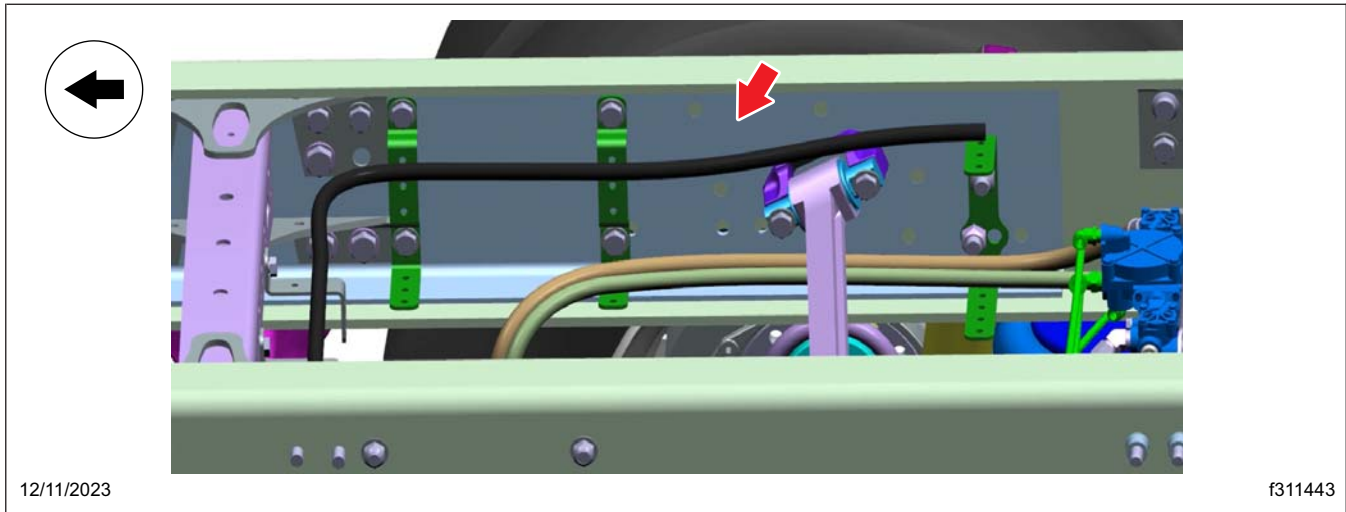

Fig. 10, Frame Reinforcement Bracket Installed
16. Slide the crossmember towards the rear of the vehicle to bring it to its original position. See Fig. 10.